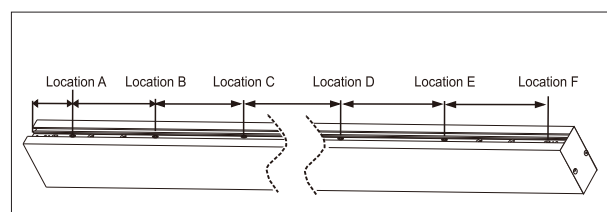

FIG 6
1. Before you install the pendant track, please refer to the picture of pendant hole diagram (ref fig 6) and dimension spacing table, then go to the installation area for positioning and installing.